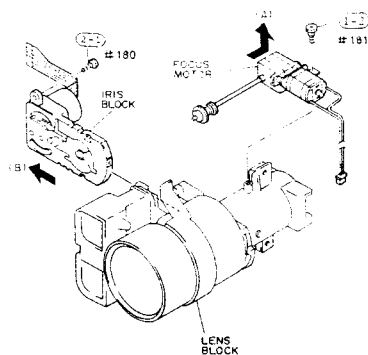

Fig. 2-103
- Remove one (1) screw holding the focus motor. (See Fig. 2-103)
- Remove the focus motor from the lens block in the direction of arrow (A).
- Remove one (1) screw holding the iris block. (See Fig. 2-103)
- Remove the iris block from the lens block in the direction of arrow (B).